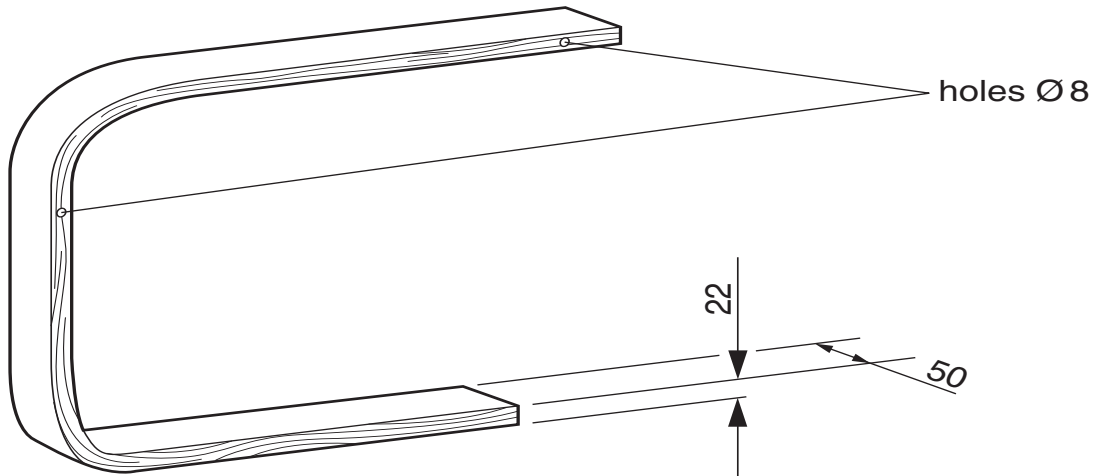

Fig. 7
Fig. 7 shows one of the wooden side frames for the chair.
(e) (i) State a **suitable specific material** for the side frame shown in Fig. 7. Give **two** properties or characteristics that make the material suitable for this use.
- (ii) Describe, in detail, how the side frame shown in Fig. 7 would be manufactured as a batch of 5000.